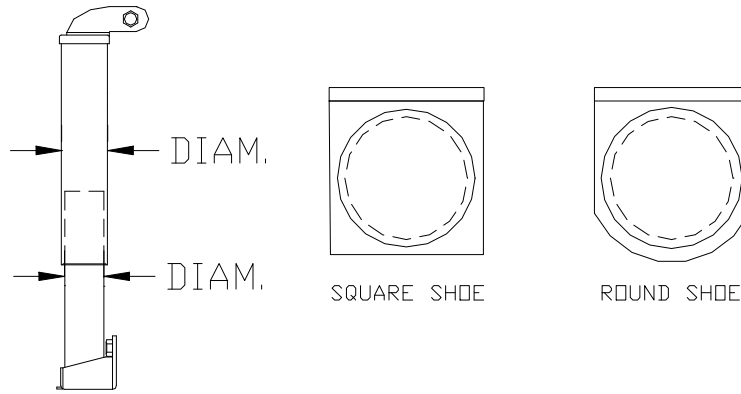

FIG. 3
- B. Is lower mounting-shoe square or round (fig. 3)? \_\_\_\_\_
- C. Diameter of upper and lower tubes (fig. 3): \_\_\_\_\_